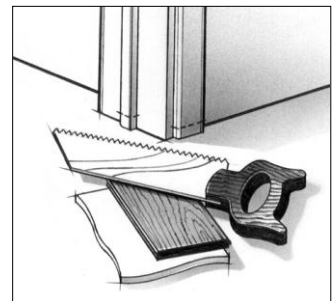

Fig. 1
2. Door trims and doorjamb must be undercut to allow the floor to move freely. Use a discarded piece of floor and foam underlayment to support the saw blade at the correct height for undercutting (**Fig.1**).